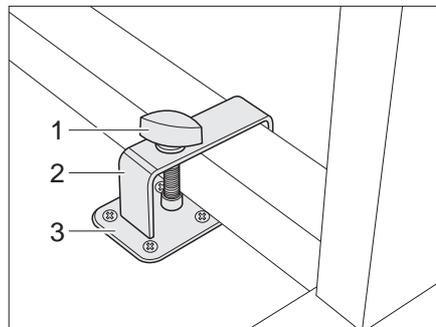
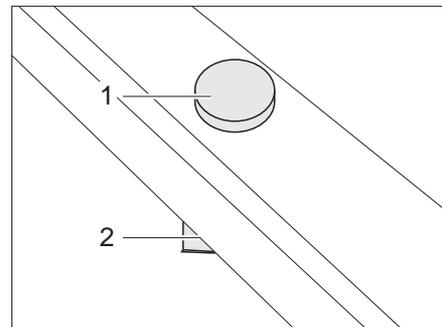

Fig. 55 Latch for swivel table with metal frame
Fig. 56 Latch for swivel table with plastic frame
- Place the swivel table next to the holder (Fig. 55,3) or on the holder (Fig. 56,2).
- Place the bar (Fig. 55,2) with the securing bolt (Fig. 55,1) over the table leg.
- Move the bar and possibly also the swivel table in such a way that the securing bolt (Fig. 55,1 or Fig. 56,1) can be screwed into the holder (Fig. 55,3 or Fig. 56,2).